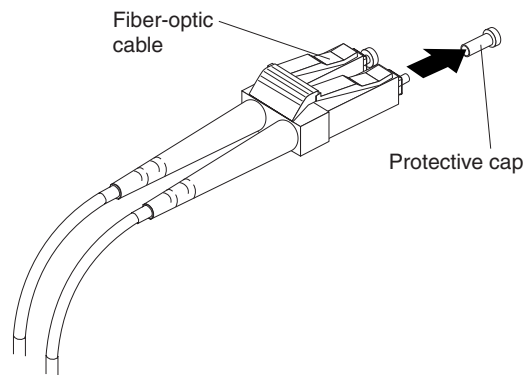

Figure 37. Removing caps from fiber-optic cables
1. Remove the protective cap from the fiber-optic cable. See Figure 37.